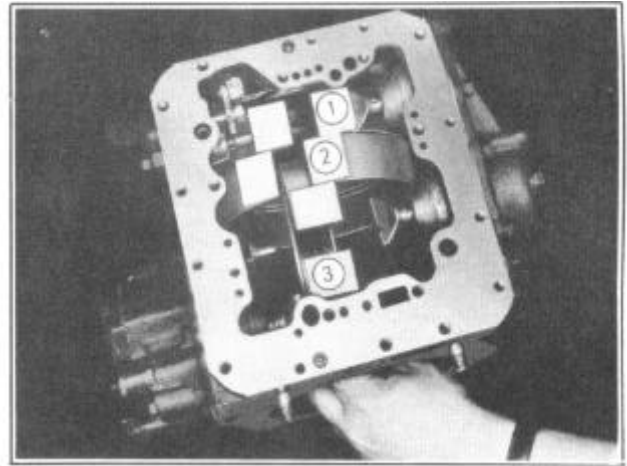

FIGURE 131
6. Disengage the reverse servo band shoe from the strut and remove the strut. Then disengage the band shoe from the piston strut and turn the band 90 degrees, Figure 131.